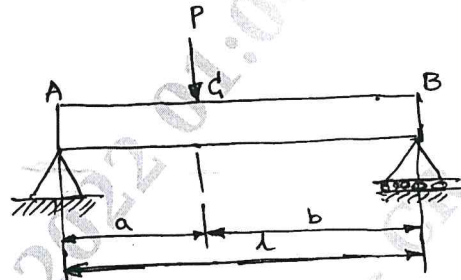

Fig Q9(b)
- b. A simply supported beam is loaded as shown in Fig Q9(b). Determine the deflection using Castigliane theorem.